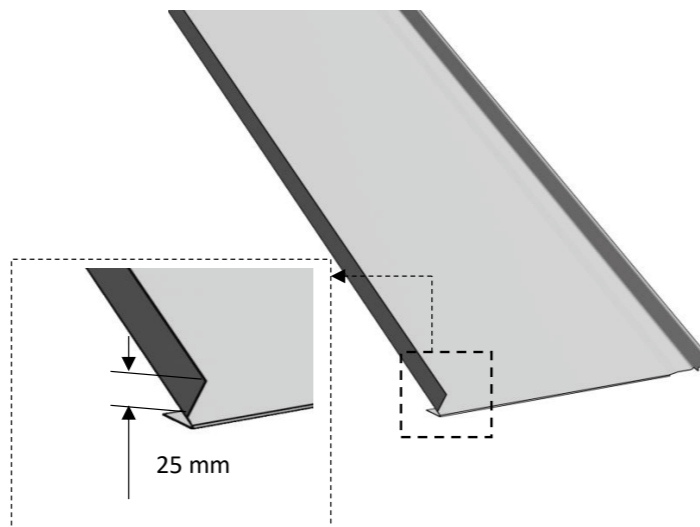

Fig. 12
- Measure 25 mm from the cut edge of the sheet and fold upwards at an angle of 90° (Fig. 12).